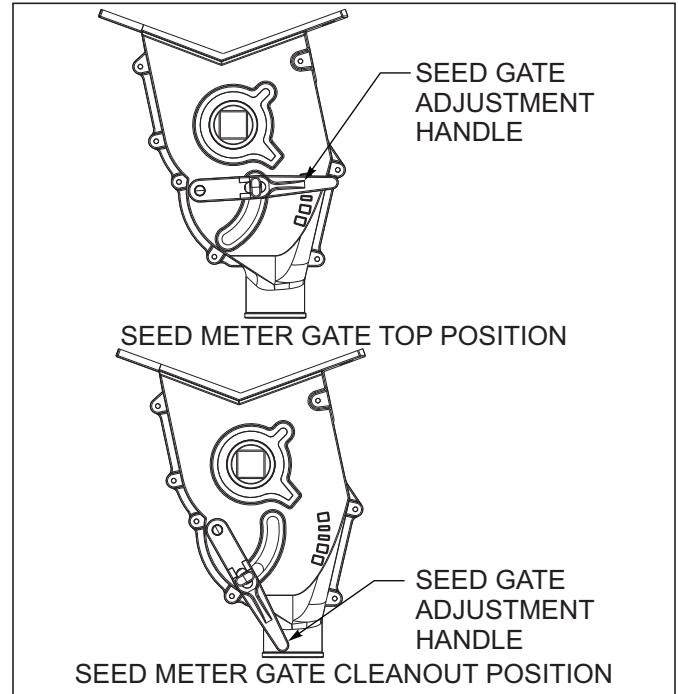

Figure 4-20: Seed Meter Gate Adjustment
1. Use the top seed gate position when planting small seeds such as alfalfa, oats, barley, rice, or wheat See Figure 4-20
5. The seed gate may also be completely lowered to clean out the meter and seed box See Figure 4-20. Fully open all seed meter gates at the end of planting season to clean out any remaining seed.